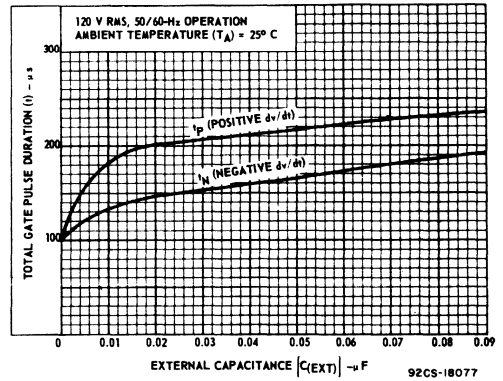

Fig. 8b—Total gate pulse duration vs. external capacitance for CA3058, CA3059 and CA3079.
*Pulse duration in 50 Hz applications is approximately 15% longer than shown in Fig. 8b